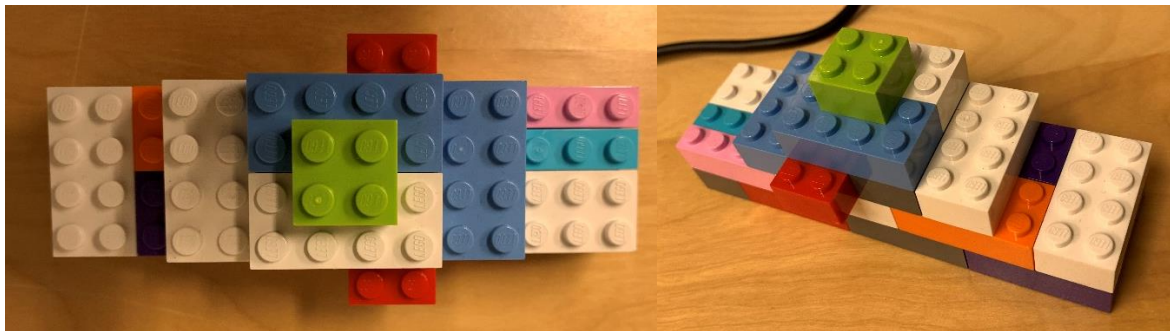

Figure 1: Lego shape used for creating a specific shape with building blocks with a set standardized size.
- Lego shape (see Figure 1 below).